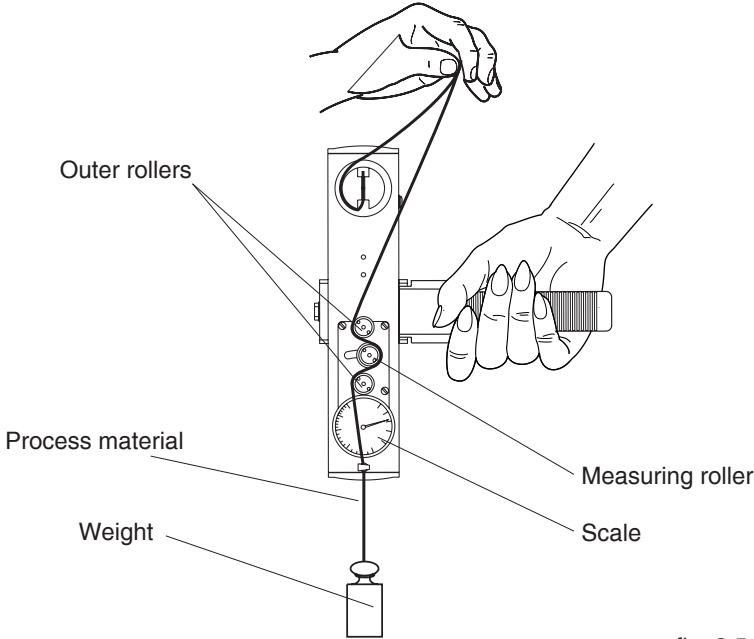

fig. 3.5
- Hang a weight which corresponds to the tension to be measured (pay attention to the correct unit of measure) from the process material, vertically, as shown in fig. 3.5. (Always use a fresh portion of the material to be measured.)